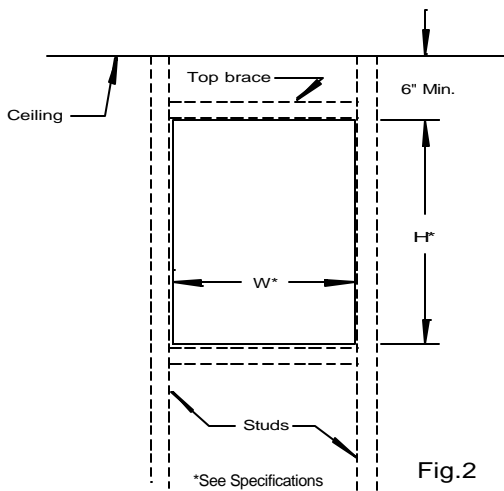
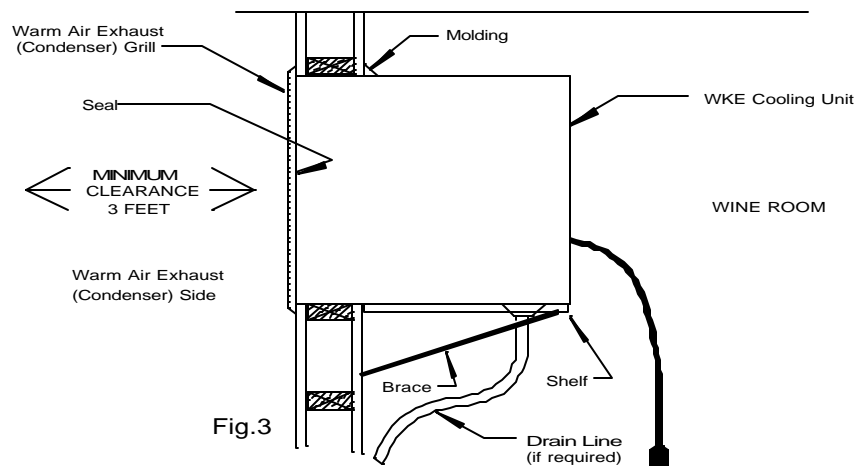

Fig. 2
Fig. 3
Before installing the unit, inspect it again for any shipping damage. Test the unit by placing it in a room where the temperature is above 65°F and plug it into a properly grounded electrical outlet. The thermostat has no "off" position; therefore it will begin to run within 5 minutes of being plugged in. Allow it to run for a minimum of 15 minutes. There should be a flow of cool air from the upper grille (see Fig. 1) and warm air should be flowing from the upper opening on the warm air exhaust side (see fig. 3). If there is no airflow or no change in temperature on either side, contact your dealer.
- ☞ Additionally, cold air flowing from the upper cold side grille must remain unobstructed for 3 feet. It is preferred that the unit be mounted near the ceiling and as close to equal distance from each end of the wall as possible. If necessary, these units may be mounted near the floor if the upper grille is interchanged with the blank off plate so that the cold air will be directed up (See Fig. 1). There should be nothing above the unit to block air flow. Remove the insulation under the blank off plate with a knife. Make sure that the warm air exhaust grille can be properly attached to the unit (see fig. 3).
- ☞ Make a hole through the wall as illustrated in Fig. 2. The dimensions of the hole should be approximately 1/4 inch larger than the width and height given in the specifications. If the unit is to be installed above floor level, construct a shelf as shown in Fig. 3. This shelf must be capable of supporting the weight indicated in the specifications. NOTE: Insulation placed between the unit and the shelf will reduce additional noise and help reduce condensate from forming on the underside of the unit.
- ☞ Place the unit through the opening with the warm air exhaust side, flush to the outside of the wall (see fig. 3). Attach the warm air exhaust grille to the unit and to the wall with screws supplied with grille. Note: the unit may be installed with the cold side flush to the inside wall, however, 2 provisions must be made. First, insure the warm air exhaust grille will be installed. Second, insulate and vapor barrier the framed opening to prevent any wall moisture